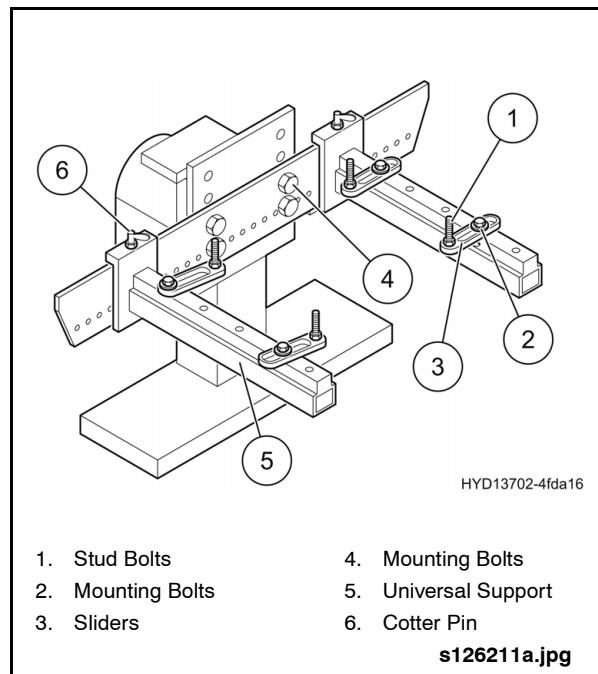

Fig. 2-45: Universal Support
1. Install the Universal Support (Item 48 from Special Tools List) on the Engine Stand (Item 79 from Special Tools List) and tighten the mounting bolts. See "Fig. 2-45: Universal Support" on page 41.